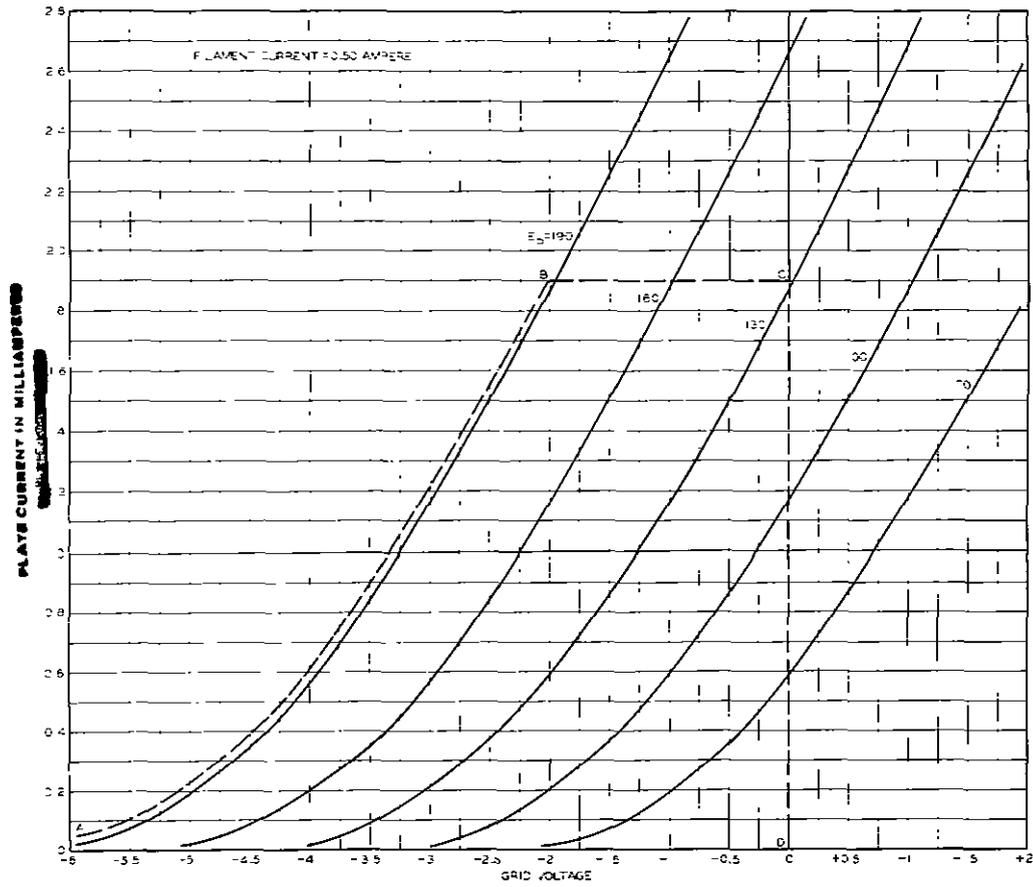
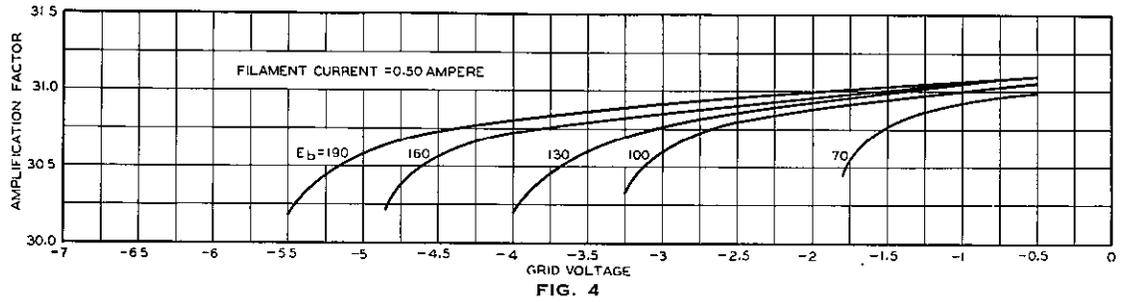
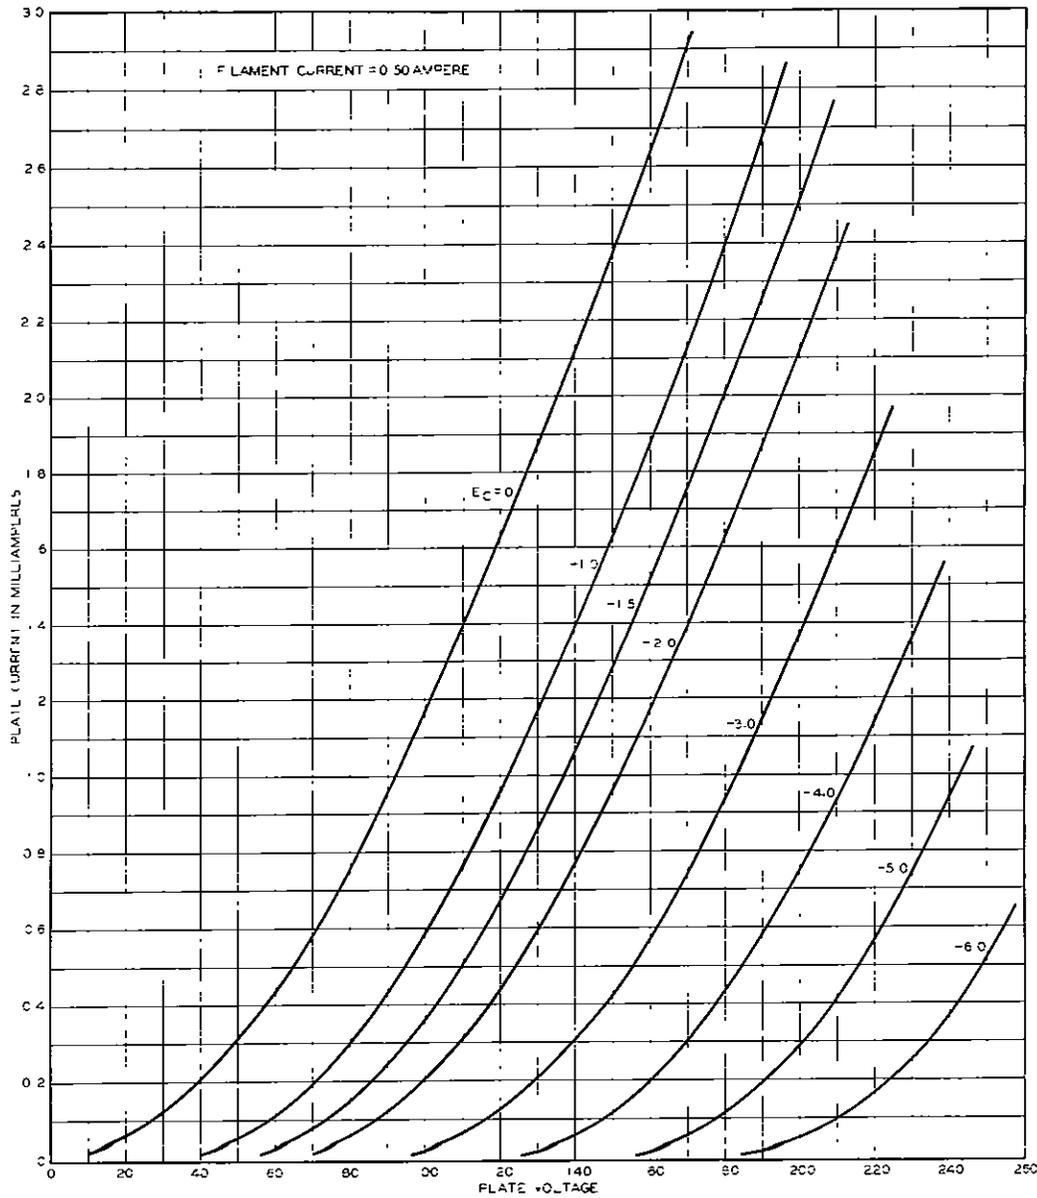

FIG. 3
FIG. 4
FIG. 7
**Characteristics**—Typical curves showing plate current as a function of grid voltage for several values of plate voltage are shown in Figure 3. The grid and plate voltages are measured from the negative end of the filament. Corresponding amplification factor, plate resistance and transconductance characteristics are given in Figures 4, 5 and 6 respectively. Plate current as a function of plate voltage for several values of grid voltage is shown in Figure 7.
**Operating Conditions and Output**—Permissible operating plate and grid voltages are included within the area, ABCD in Figure 3. A number of recommended and maximum operating conditions and the corresponding values of amplification factor, plate resistance, transconductance and performance data are given in the table below. Recommended conditions or others of no greater severity should be selected in preference to maximum conditions wherever possible. The life of the tube at maximum operating conditions may be shorter than at less severe conditions.